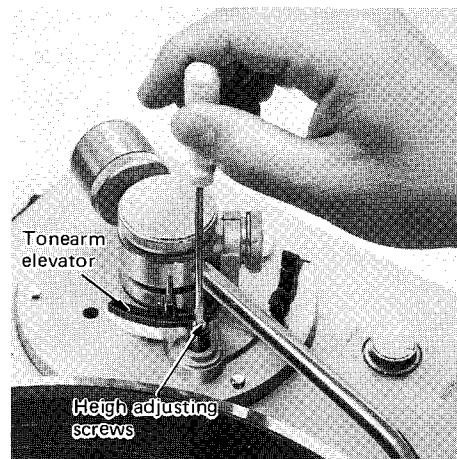

Fig. 9
- Tonearm elevator height adjustment (See Fig. 9)